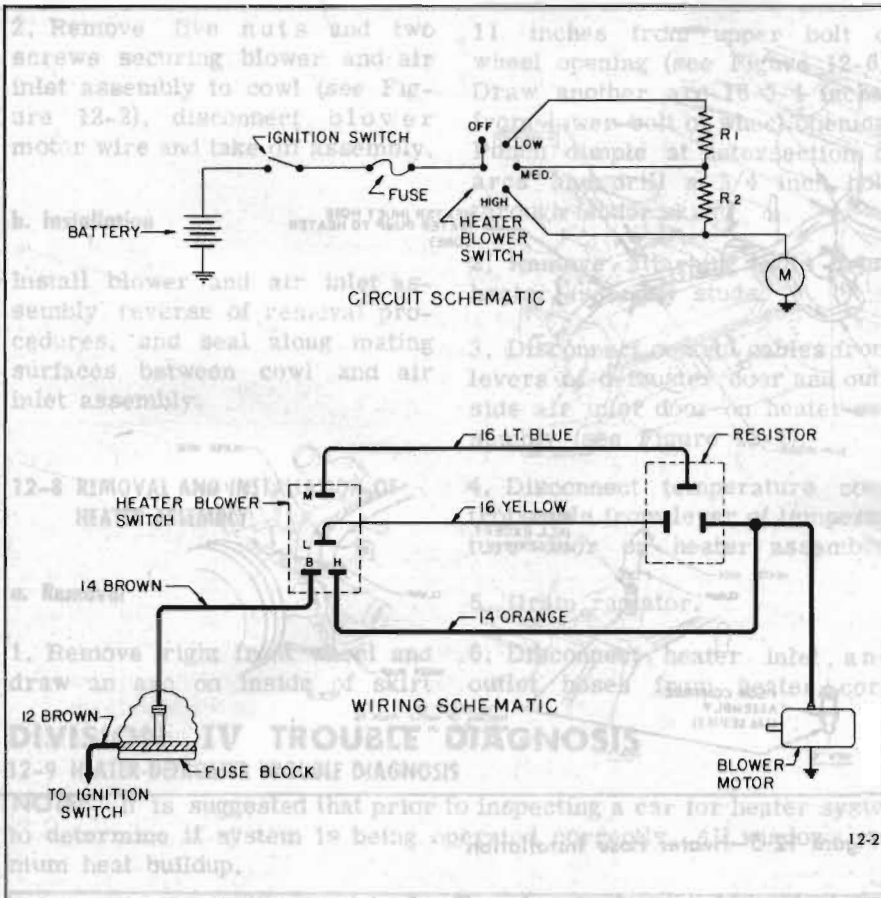

Figure 12-3—Heater System Wiring Diagram and Schematic
1. Blower and Air Inlet Assembly—The blower and air inlet assembly draws outside air through the outside air inlet grille located forward of the windshield reveal molding and channels the air into the heater assembly. The operation of the blower motor is controlled by a FAN switch on the heater control. The motor is connected in series with the three position FAN switch and also the blower resistor assembly (see Figures 12-3 and 12-4). A 30 amp fuse, located in the fuse block, is in series between the blower motor and the battery.